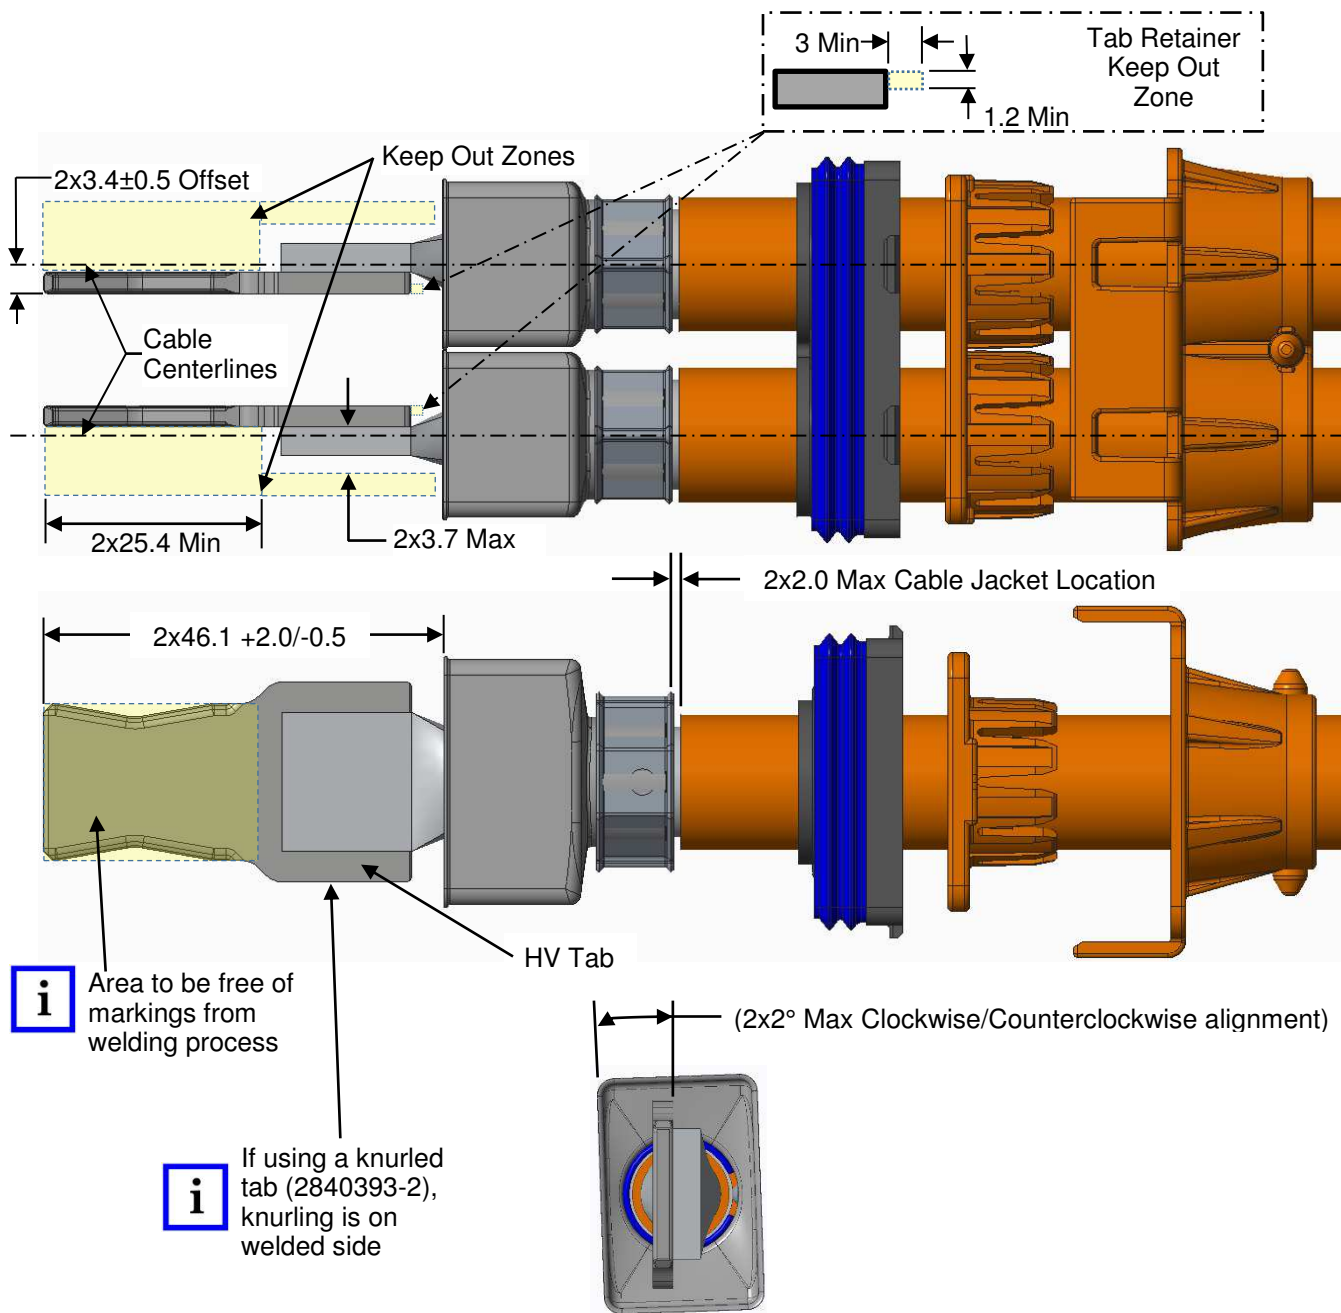

Figure 8: HV Tab ultrasonic welding
- E. **3.6.:** Pt.6 Fig 8 – Added note "If using a knurled tab (2840393-2) knurling is on welded side.
4. Ultrasonic weld HV Tab as shown in Figure 8. See SAE/USCAR-38 for weld bond appearance, mechanical and electrical requirements. Ensure that the keep-out zones are not violated. This is critical to ensure proper assembly.